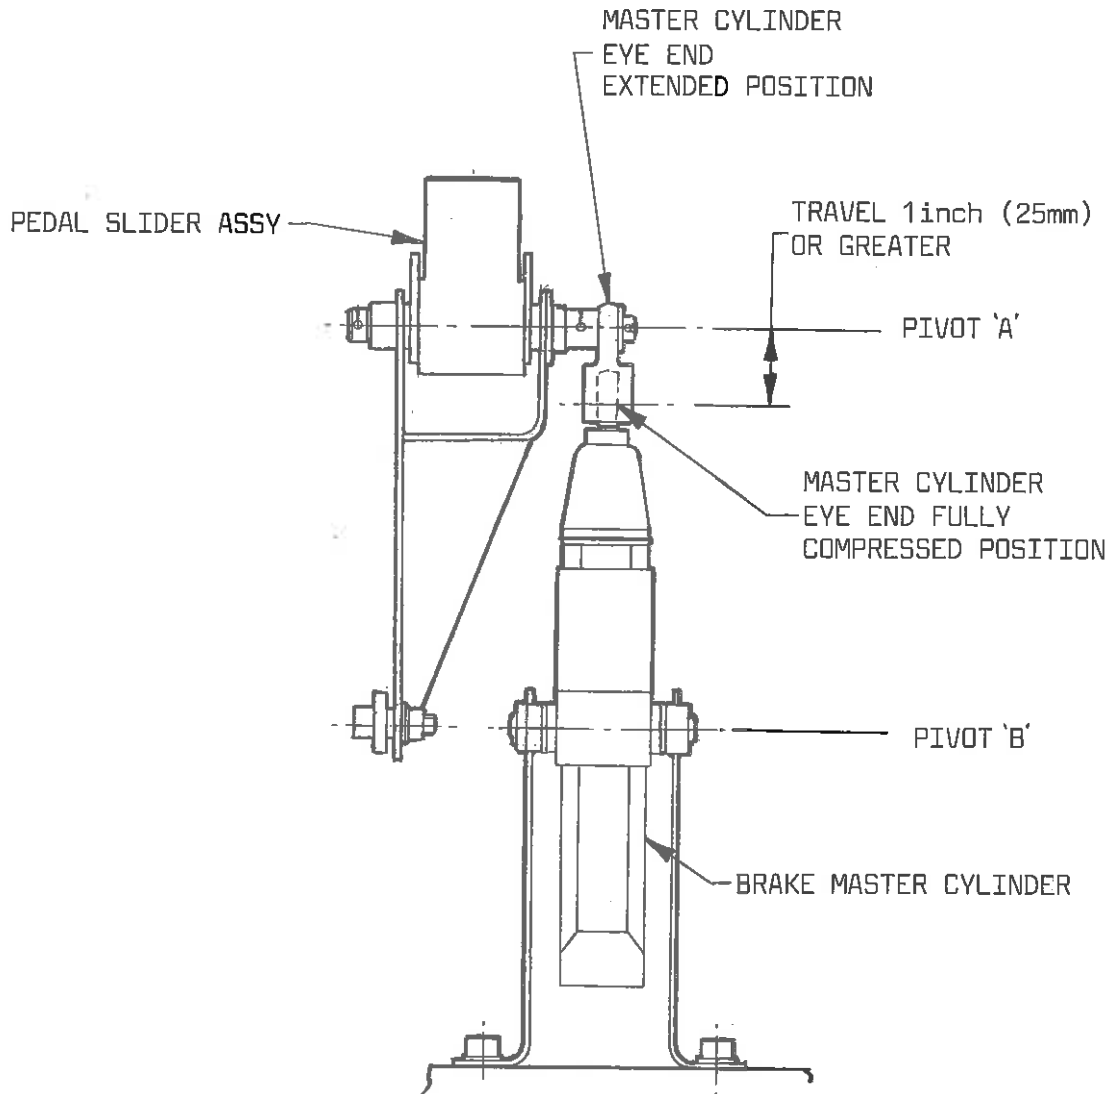

FIG 1
3. Refer Fig. 1. Fully compress brake master cylinder by applying hand pressure to rudder pedal toe brake and measure travel between pivot points A & B, with a rule or similar.